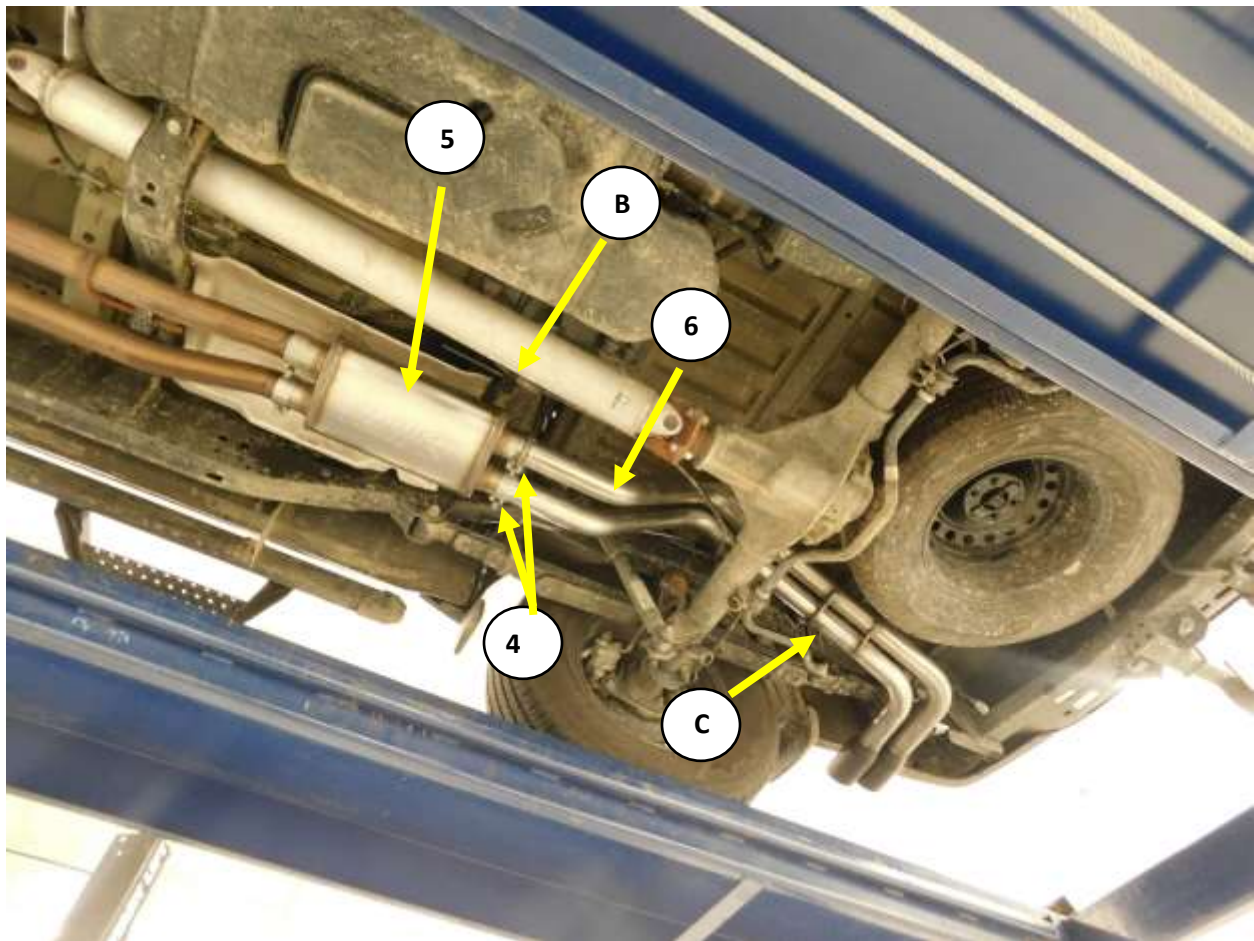

Figure 4
8. Install the FlowFX Muffler (5) on to the inlet pipes with the seam to the inside and the FlowFX logo running front to back. Support the muffler from hanging on the inlet pipes. **Fig.4**
10. Install a supplied 2.5" band clamp (4) over each muffler outlet. Position with the bolts on the passenger's side and nuts facing down.
11. Install the tailpipe assembly (6) over the axle, Install the hanger rod at the back of the tail pipe into the tail pipe hanger isolator on the frame rail (C). **Fig.4**
12. Align the tailpipe hanger rod (B) to the isolator above the muffler and the tailpipe to the muffler outlets, install the tailpipes into the muffler and hanger rod into the isolator. Tighten the clamps to hold the tailpipe to allow for adjustment.